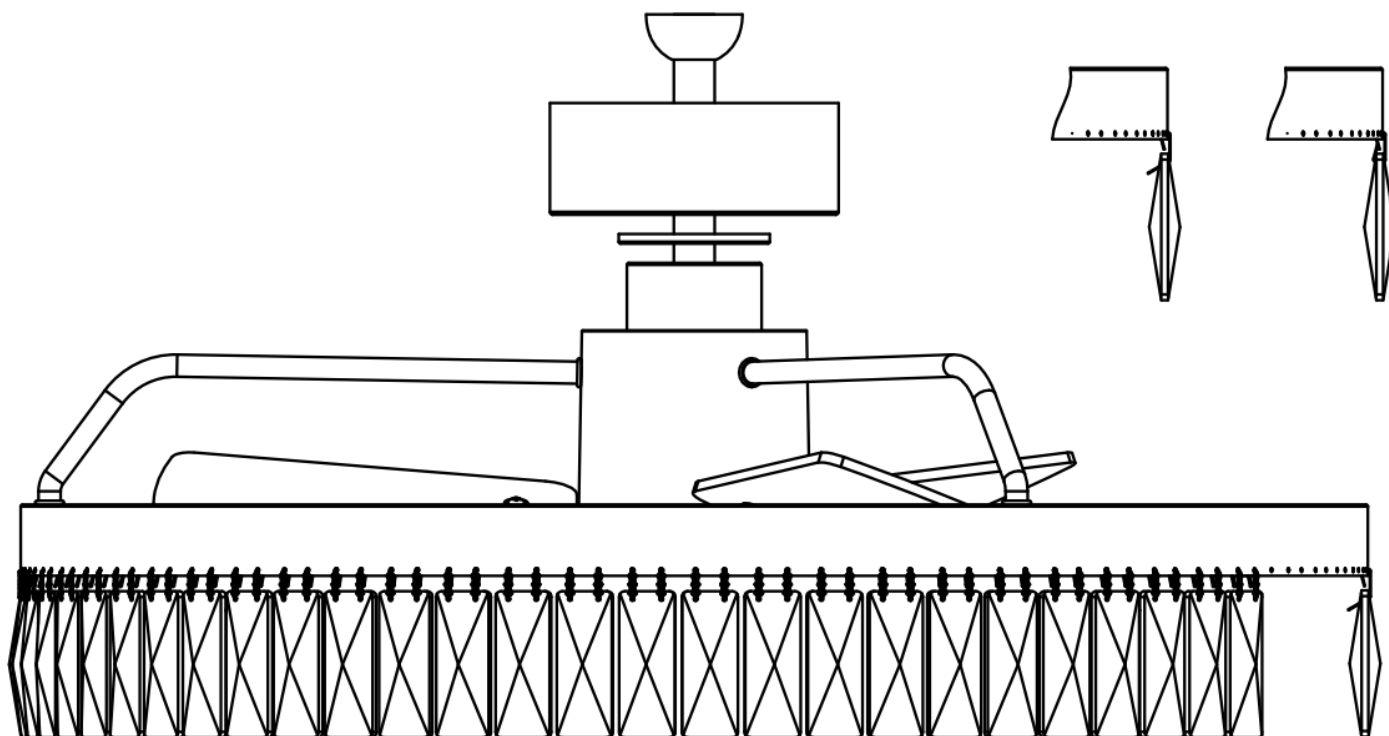

Fig. 7
3. Hang the decorative drops to the fan assembly by the hooks. (Fig.7)